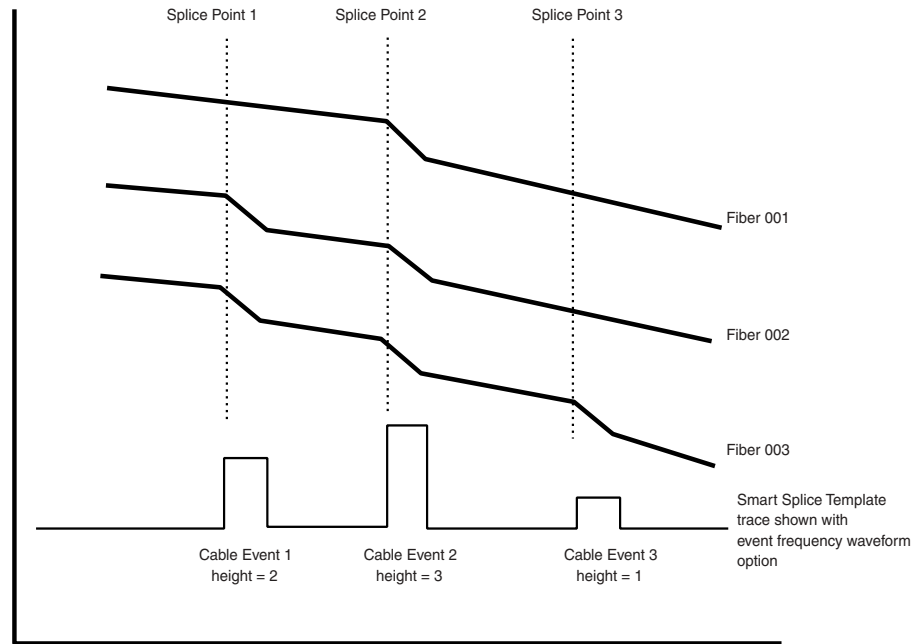

Figure 7-1: Smart Splice Template Trace
Figure 7-1 is a graphic representation of a smart splice template trace generated from the traces of three (3) fibers within a cable containing three (3) splice points. The representative trace for Fiber001 has one detectable event at splice point 2; Fiber002 has detectable events at splice points 1 and 2; and Fiber003 includes events at all three splice points. The resultant smart splice template shows three cable events. Note that the height of each